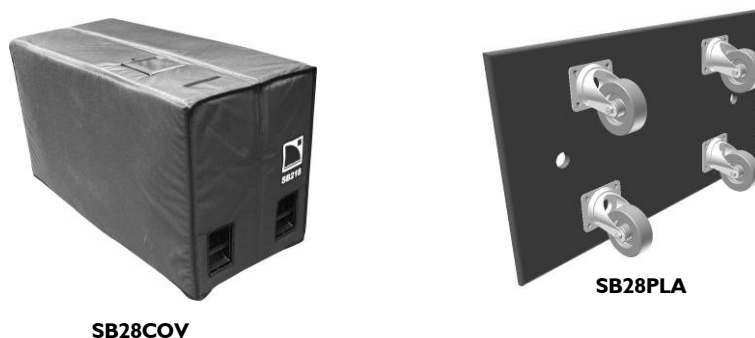
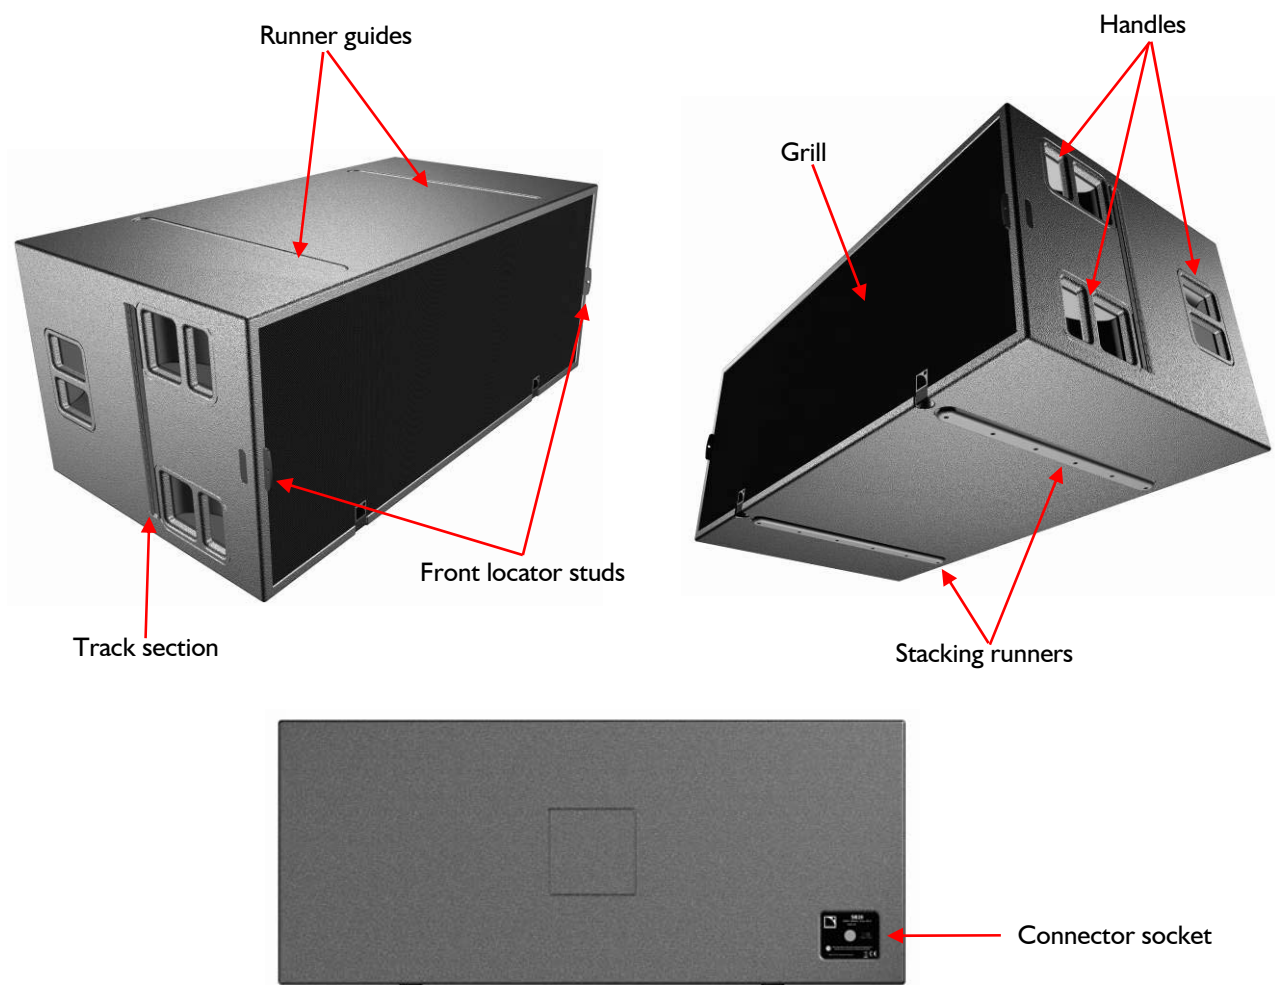

Figure 2: Systems and elements compatible with the SB28 (part 2)
Figure 3: The SB28 subwoofer enclosure
The optional **L-ACOUSTICS® SB28PLA** dolly board (see Figure 2) can be secured to the SB28 enclosure by inserting the two captive dolly board pins in the front locator studs (see Figure 3) thus allowing easy transportation and protection of the enclosure.
L-ACOUSTICS® recommends using the **L-ACOUSTICS® SB28PLA** removable front dolly board and the **L-ACOUSTICS® SB28COV** protective cover (see Figure 2) for shipping the SB28 enclosure.
- Stacking vertical array of up to 6 SB28 enclosures using the fully integrated stacking runners and runner guides (see Figure 3).